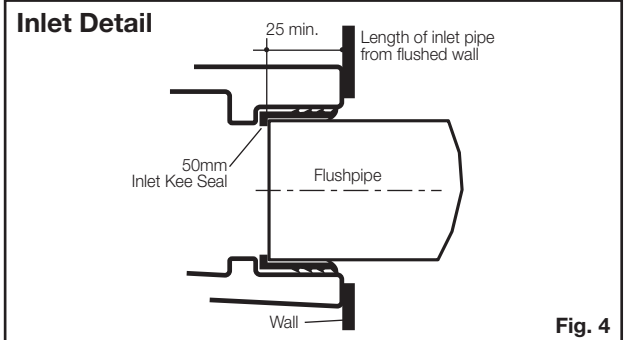

Fig. 4
- 5- Fit keeseal onto inlet pipe, as detailed in Fig. 4.
- 7- Fit keeseal onto inlet pipe, as detailed in Fig. 4.